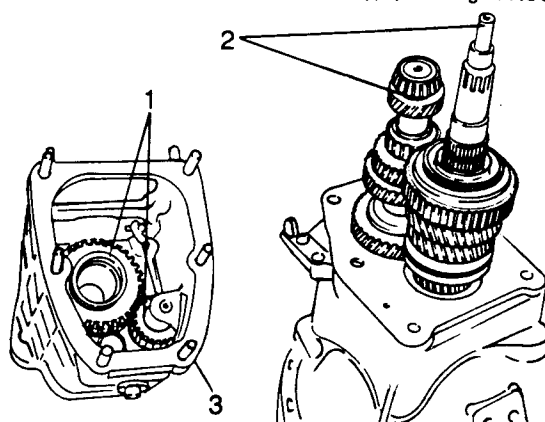

Fig H1.62
- (6) Refer to Fig H1.62. On removal of the housing, 1st speed gear (1) will have to be removed at the same time, since this interferes with reverse pinion which also comes out with the housing.
- (7) The main shaft and layshaft assemblies (2) will remain positioned on the clutch housing, in their working positions.